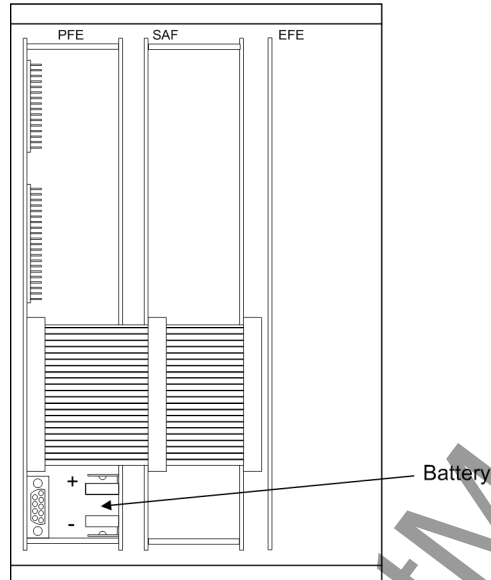
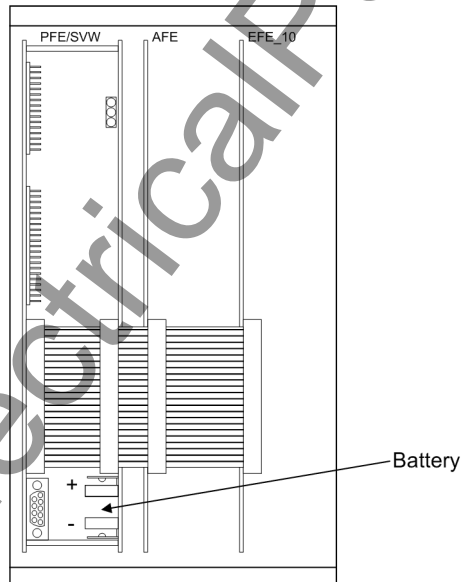

Figure 8-6 Front view after removing the front panel, and location of the buffer battery
Figure 8-7 Front view after removing the front panel, and location of the buffer battery
- ❑ The battery is located on the bottom front of the PFE module (Figure 8-6, page 305).
- ❑ Press the new battery firmly into its snap-in holder (see Figure 8-6, page 305 or Figure 8-7, page 305). **Observe the correct battery polarity!**
- ❑ The fine-wire fuse is located on the power supply module (SAF or PFE/SVW). The location of that module is shown in Figure 8-6, page 305 or Figure 8-7, page 305.